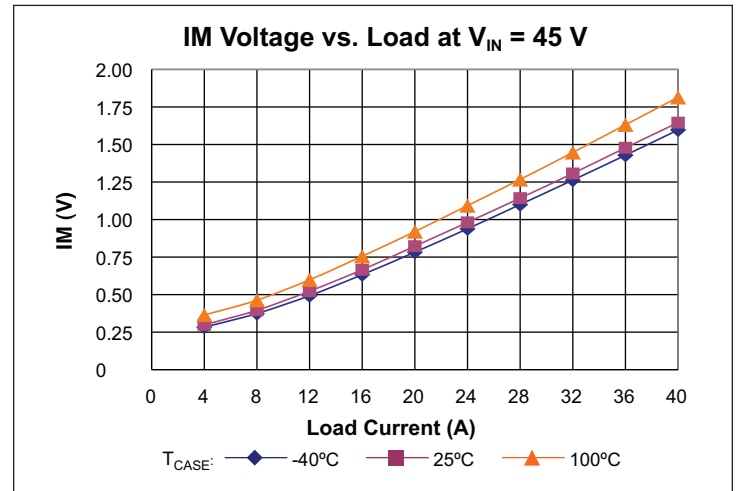

Figure 8 – IM voltage vs. load
**Current Monitor (IM)** pin provides a voltage proportional to the output current of the VTM. The nominal voltage will vary between 0.3 V and 1.64 V over the output current range of the VTM (See Figures 8–10). The accuracy of the IM pin will be within 25% under all line and temperature conditions between 50% and 100% load.